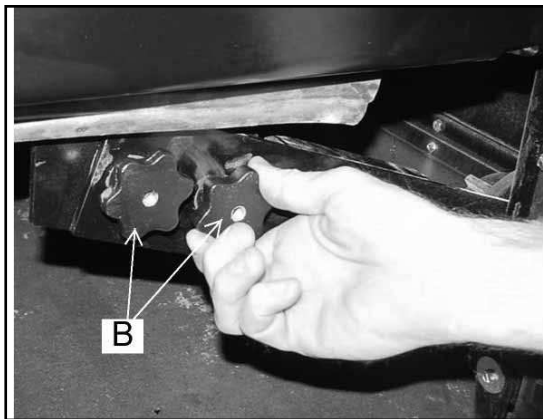

FIGURE 82
The Main Broom should be replaced when the bristles become worn to less than 1 1/2". The main broom is held in place by the right side broom door. This feature provides for easy removal and installation of the main broom without the need for special tools or equipment. Lift the hopper to gain access to the main broom compartment. Loosen the main broom access door knob and open the main broom access door. Rotate and remove the broom lift arm knobs (B) counterclockwise to the left as shown in figure 82 and 83.